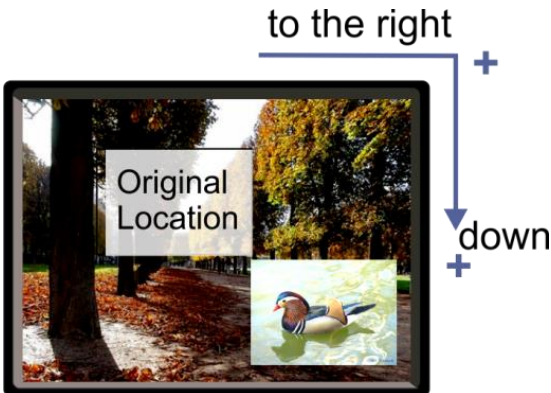

Figure 18: Moving the PiP Window
4. Press the +/- buttons to move the PiP window horizontally. Use the V Position menu item in the same way to move the PiP vertically, see Figure 18.